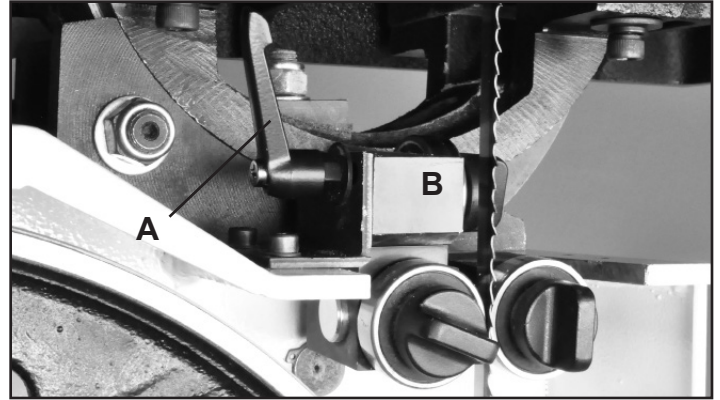

FIGURE 26 NOTE: Blade Guard removed for photo purposes
2. The guides should be approximately $1/16$ " behind the gullets of the saw blade. If they need to be moved, loosen the Lever Handle (#60A, Fig. 26, A), located to the left of the Lower Guide Block (#43A, B), and move this block that holds the guides so that the guides are properly positioned behind the blade gullets. Re-tighten the lever handle when done.